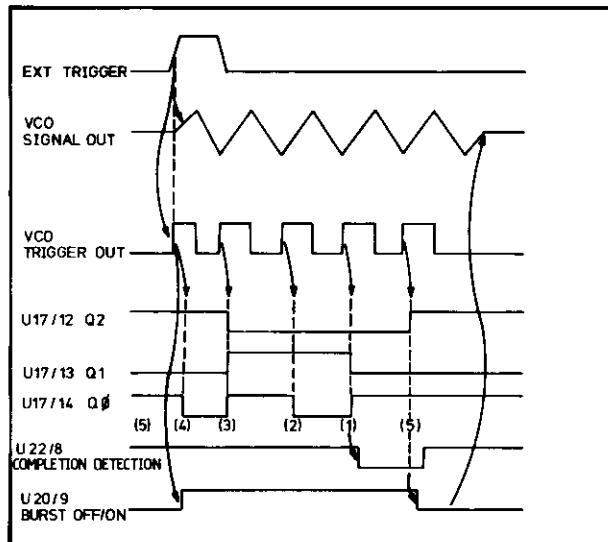

Figure 8-6-2. Burst Timing Diagram (Burst Number = 5)
Figure 8-6-2 should be referred to as necessary to aid understanding of the descriptions.
The One Detector circuit output, U22C pin 8, is changed from its normal high to a low level when the stored burst count reaches one (001). Until this point, U22C pin 8 at high has maintained the BURST ON/OFF signal at high (Burst on). At the receipt of the next clock pulse, which initiates the last burst cycle, the level at U22C 'D' is transferred to the Q output so disabling burst via the VCO BURST ON input. This is illustrated by Figure 8-6-2.